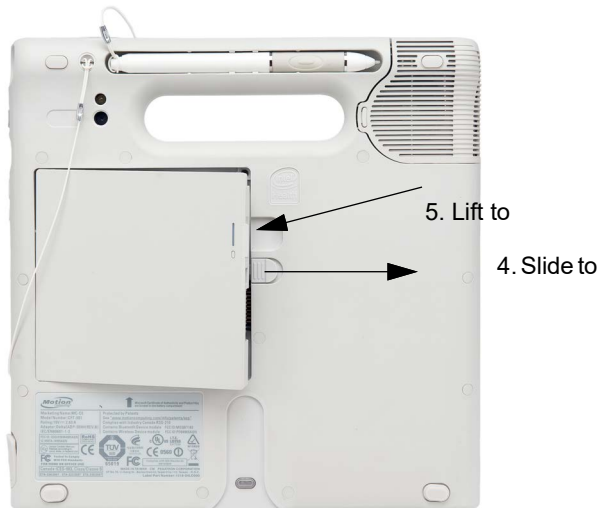

Figure 8-1. Removing the Battery
3. Turn the tablet over to the backside, and remove the battery from the battery compartment (Figure 8-1).
4. Slide the battery compartment latch (Figure 8-1) to the right to release the battery.
Store the stylus in the storage bay on the back of the tablet (Figure 8-1).